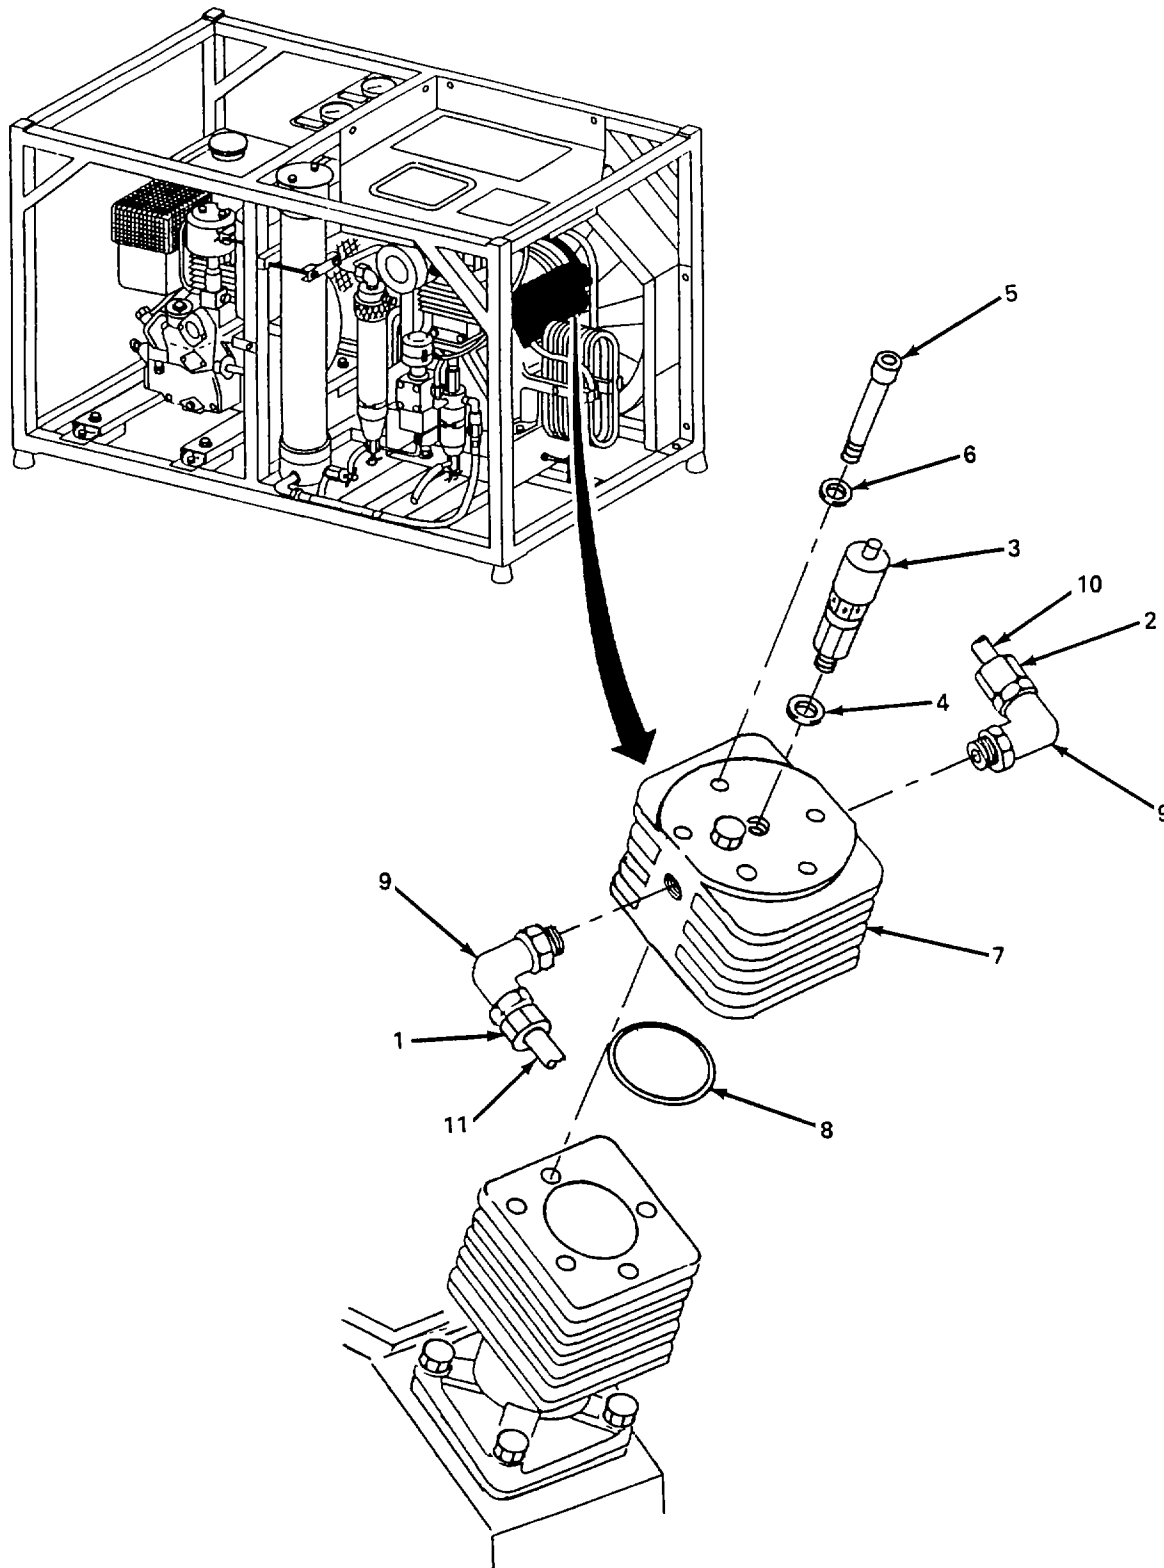

Figure 5-31. Second Stage Valve Head Assembly, Replace.
a. Replace. (figure 5-31)
- (1) Loosen connector nut (1).
- (2) Loosen connector nut (2).
- (3) Remove safety valve (3) and preformed packing (4). Discard preformed packing (4).
- (4) Remove six bolts (5), washers (6), second stage valve assembly (7), and preformed packing (8). Discard preformed packing (8).
- (5) Remove two elbows (9).